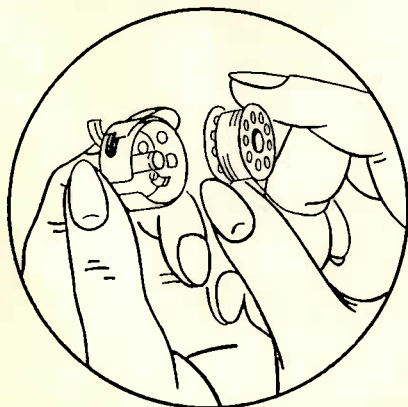

Fig. 8
Before threading the bobbin case, study (Fig. 8, 9, 10) to get a general idea as to how it is done.
- 1) Hold the bobbin case with your left hand and put the bobbin into the bobbin case with your right hand, leaving about two inches of the thread end unwound (Fig. 8). As the bobbin is being inserted in the bobbin case, the thread flow is clockwise.